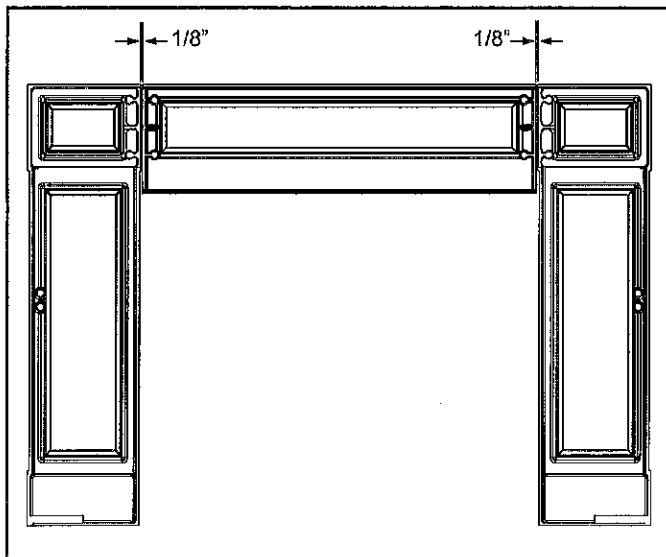
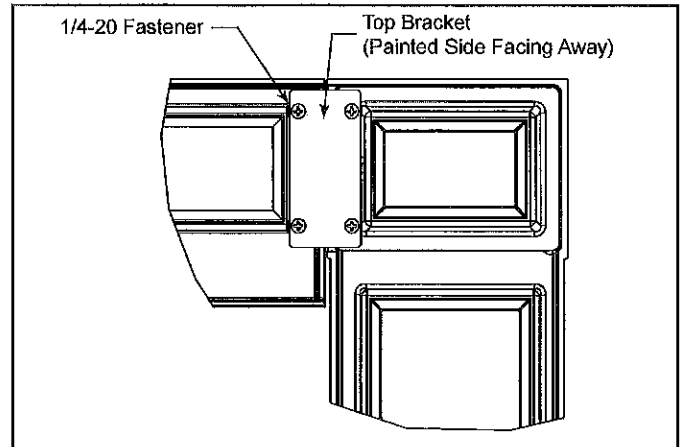

Figure 1
Figure 2
1. Assemble the three panels by laying them face down on a flat soft surface like carpet. (Figure 1) Align one of the Top Brackets with the threaded holes in the Column Left and the Center Panel (Figure 2) Insert (4) 1/4-20 fasteners finger tight. The painted side of the Top Bracket should be facing away from you. Repeat this operation for the Column Right. Make sure the spacing between the columns and the center panel are equal and parallel. Tighten the fasteners.